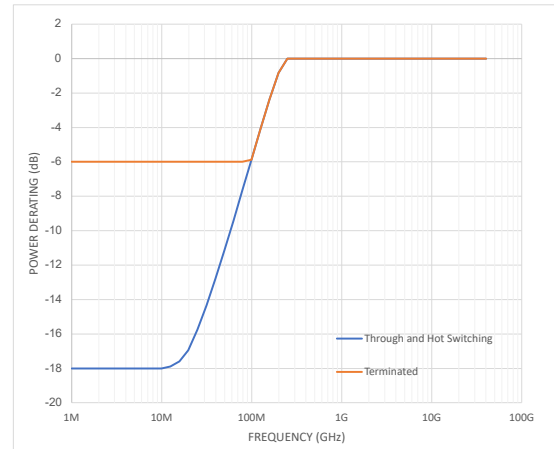
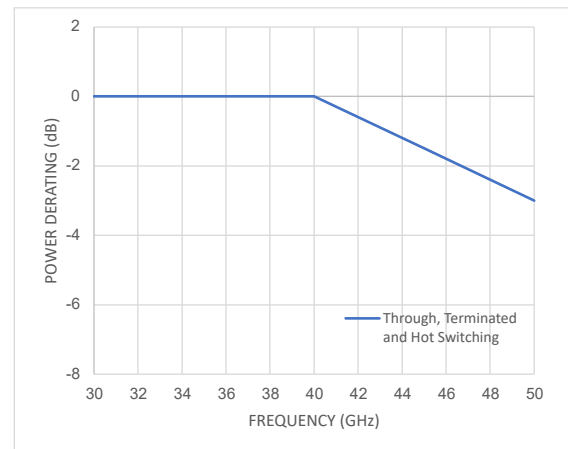

Figure 2. Power Derating vs. Frequency, Low Frequency Detail, $T_{CASE} = 85^{\circ}$ C
Figure 3. Power Derating vs. Frequency, High Frequency Detail, $T_{CASE} = 85^{\circ}$ C
- ² For power derating over frequency, see Figure 2 and Figure 3.
- ¹ For power derating over frequency, see Figure 2 and Figure 3.
¹ For power derating over frequency, see Figure 2 and Figure 3.